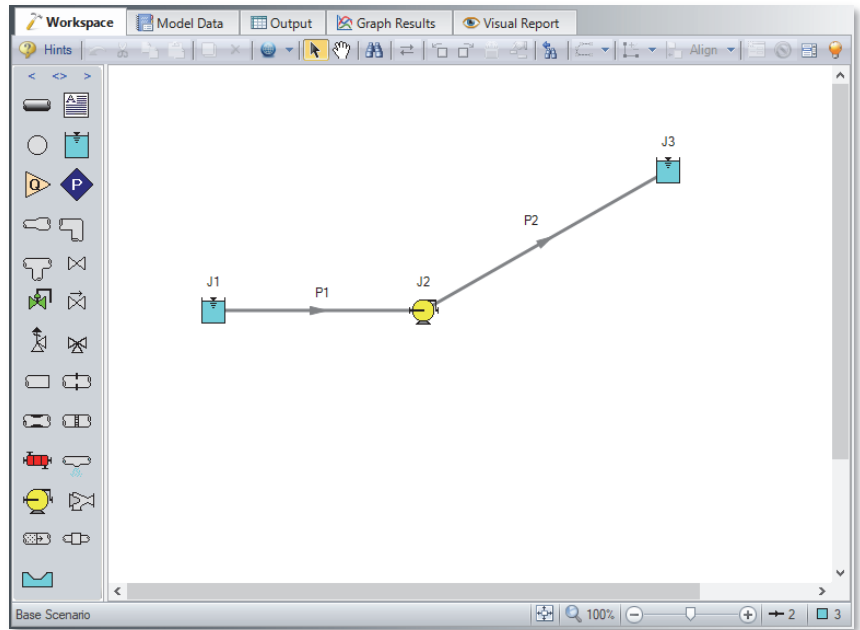

Figure 2.5f Walk through model with all pipes and junctions placed
- **Activate the Pipe Drawing Tool again**, position the mouse pointer on the J2 Pump, then press and hold the left mouse button. Stretch the pipe across to the J3 Reservoir, and then release the mouse button. Your model should now look similar to Figure 2.5f.